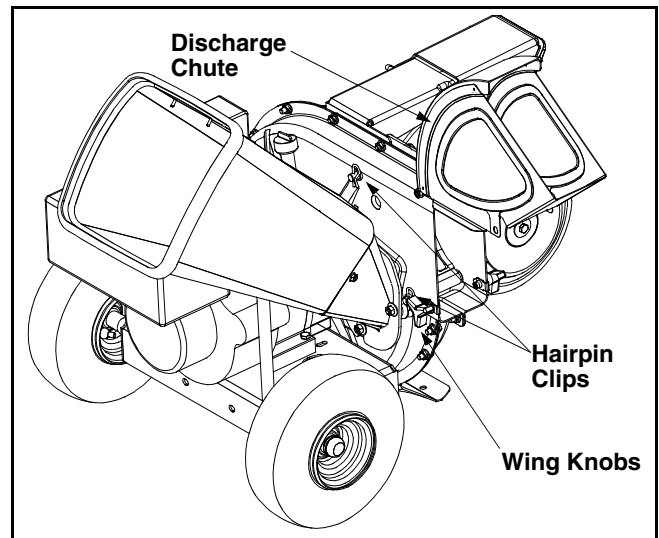

Figure 8
- Remove the two wing knobs on each side of the discharge chute and lift the discharge chute up to keep it out of the way. See Figure 8.